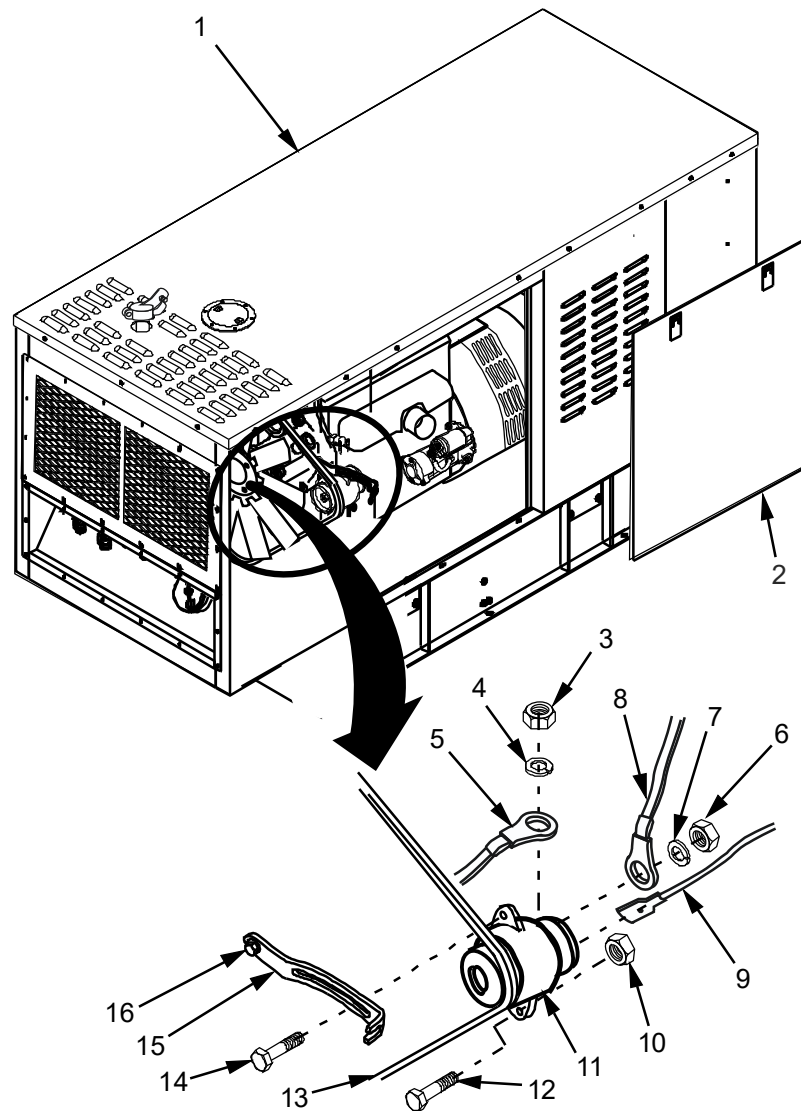

Figure 1. Alternator Removal/Replacement.
2. Align bottom bolt hole of alternator (Figure 1, Item 11) with corresponding hole on engine block.
3. Insert bottom mounting bolt (Figure 1, Item 12) and nut (Figure 1, Item 10) and tighten until touching engine mount. Leave slack in bolt to allow movement.
4. Rotate alternator (Figure 1, Item 11) into the up position. Align bolt hole with groove in adjusting slide.
5. Insert alignment bolt (Figure 1, Item 14) through adjusting groove and alternator. Finger tighten.
6. Install fan belt (Figure 1, Item 13) and perform adjustment procedure.
7. Using torque wrench, tighten bottom mounting bolt (Figure 1, Item 12) and nut (Figure 1, Item 10), alignment bolt (Figure 1, Item 14) to 14~21 ft./lb (19~28 n-m/1.9~2.9 kgf-m).
8. Using torque wrench, tighten alternator bracket hinge bolt (Figure 1, Item 16) to 25~34 ft./lb (34~46 n-m/3.5~4.7 kgf-m).
9. Connect ground wire (Figure 1, Item 8) (green with looped connector) to ground stud on alternator (Figure 1, Item 11) and secure with nut (Figure 1, Item 6) and lock washer (Figure 1, Item 7).
10. Connect wire (Figure 1, Item 5) (loop connector) to main output stud on alternator (Figure 1, Item 11) and secure with nut (Figure 1, Item 3) and lock washer (Figure 1, Item 4).
11. Connect wire terminal (Figure 1, Item 9) to alternator (Figure 1, Item 11).
13. Install front access panel (Figure 1, Item 2) on Genset (Figure 1, Item 1) and set aside.
15. Start Genset (Figure 1, Item 1) in accordance with Genset Start Procedure (WP 0005).